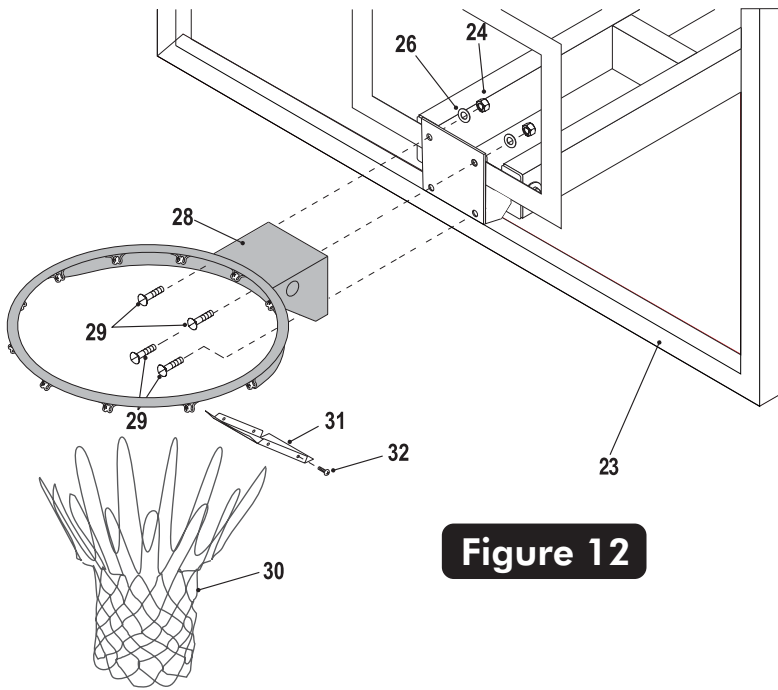

Figure 12
- 16. Mount Goal Assembly (#28) to Backboard as shown in **Figure 12**, using four bolts (#29), washer (#26) and four nuts (#24). Tighten Fasteners but leave loose enough to level rim.